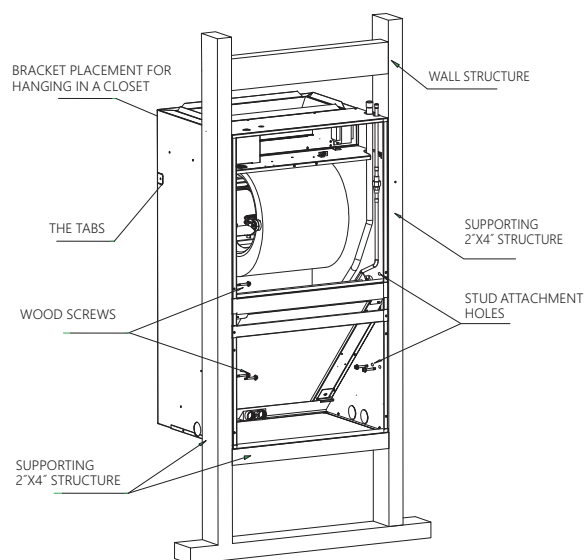
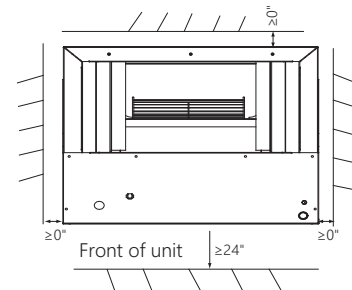

Fig. 3-2 Frame Mount
Fig.3-3 Space for Frame Mount
The air handler comes with 8 clearance holes (4 on each side). These holes are used to mount the air handler inside of a frame structure (see Figure 3-2). When mounting in this fashion, make sure that the wood screws are mounted from within the air handler and not from outside the unit in order to avoid damaging the coil. If the frame does not provide support in the front of the unit and additional support is needed, open up the tabs and fix the unit to the frame or other support structure with screws. Select a solid and level site to ensure proper installation of the frame mount. Verify that there is sufficient space for installation and maintenance.(see Figure. 3-3)
IMPORTANT: The (8) wood screws are not provided with the unit. #12 x 1 1/2" wood screws are recommended. When the unit is installed on a wood frame, the screws should be used to fix the unit to the studs. If they are not used, the unit may fall down or cause other damage. See Figure 3-2 for frame mount installation.